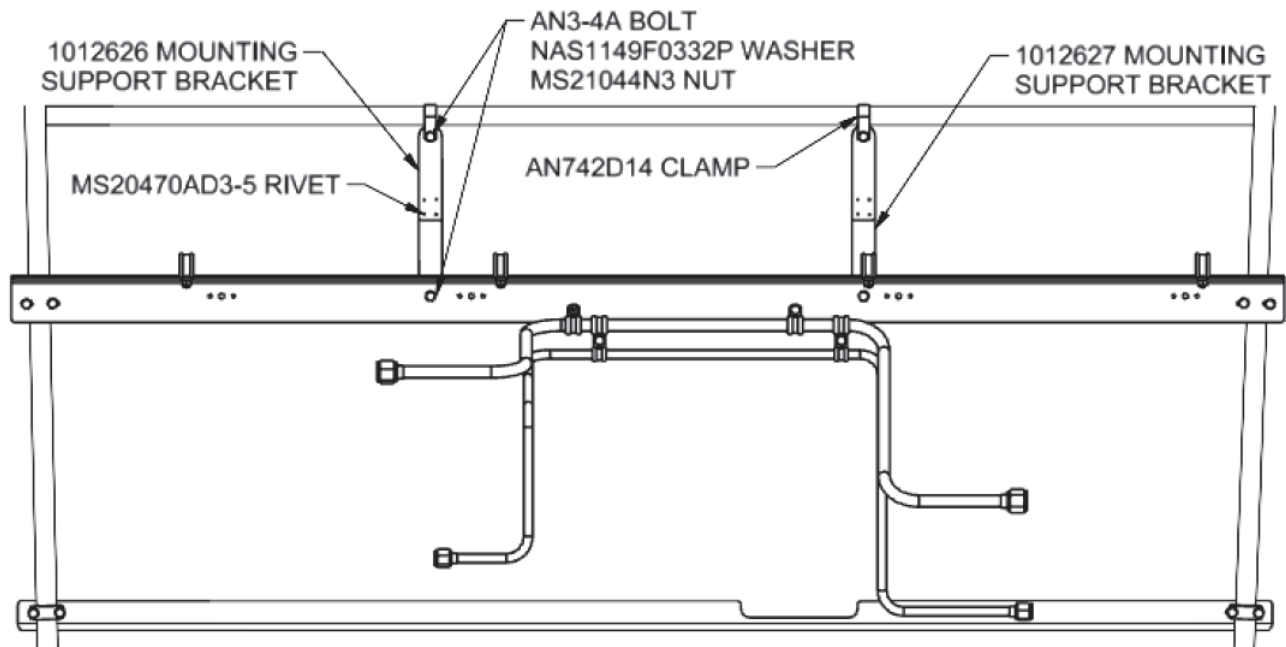

FIGURE 8
d. Install clamps (AN742D14) on horizontal cockpit floor tubing directly above the upper fuselage mount. Install mounting support bracket (1012626) onto clamp with supplied hardware. Install mounting support bracket (1012627) onto upper fuselage mount (1012618) with supplied hardware. Match drill holes from 1002626 into 1012627 and rivet together using MS20470AD3-5 rivets. See Figure 8.